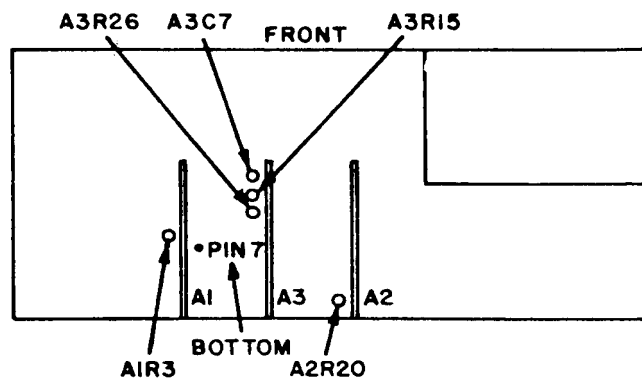

Figure 1. Test oscillator top view adjustments.
(1) Adjust **AMPLITUDE** control for an indication of 10.0 V on true rms voltmeter.
(2) Adjust **A3R15** (fig. 1) for an indication of 10.0 V on output meter (R).
(3) Adjust **A3C7** (fig. 1) for an indication of 10.0 V on output meter (R).
(4) Adjust **AMPLITUDE** control for an indication of 20.0 V on true rms voltmeter.
(5) Adjust **A3R26** (fig. 1) for an indication of 20.0 V on output meter (R).
b. Adjustments. Set frequency dials to indicate 10.00 kHz. Adjust **A2R20** (fig. 1) for minimum distortion on audio analyzer.
- (1) Connect multimeter between **A1 pin 7** (fig. 1) and signal ground.
- (2) If multimeter does not indicate between -35.5 V dc and -36.5 V dc, perform **b** below.
a. Adjustments. Adjust **A1R3** (fig. 1) for a -36.0 V dc indication on multimeter (R).